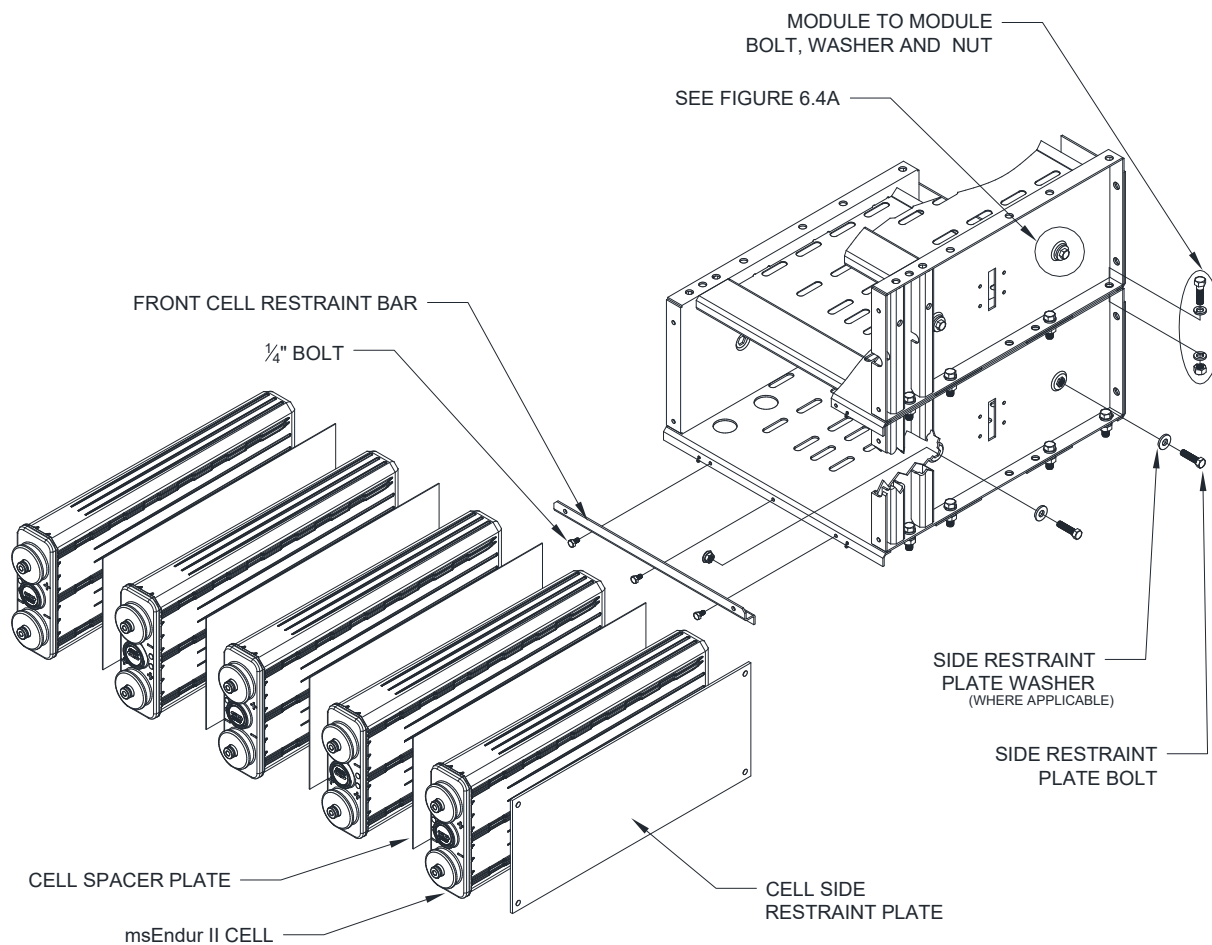

Figure 6-4 Spacer and Front Cell Restraint Assembly
- 3) If the assembly requires additional modules, using appropriate lifting equipment, place additional modules, one at a time, on top of modules already in place. Properly align modules and mounting holes, and insert the bolts, washers and nuts as shown in Figure 6-4. Module-to-module bolts should be torqued to 60 ft-lb (81 N-m) using a torque wrench.
7. Install the remaining cells within the module repeating steps 2-5 until the module is full. After each new cell is installed, insert a metal cell spacer plate between each cell. The spacer plate should be pushed to the back of the module. Slide the next cell over to the previously installed cell. This will ensure that the cells are all biased toward the side opposite of the cell side restraint plate and side restraint hardware. This will allow adequate room for ease of insertion of the cell side restraint plate. When installed properly, cell spacer plates should not reach the jar/cover joint. If the cell spacer plate extends beyond the lower lip of the module, remove it, check for any obstructions and re-install. See Figure 6-4
8. Once all cells are installed within the module and spacer plates are in place, insert the cell side restraint plate as shown in Figure 6-4. The cell side restraint plate should also be pushed to the back of the module. When properly installed, the cell side restraint plate should be fully seated against the back of the module and the front edge of the plate should not reach the jar cover seal. With all cells, spacer plates, and cell side restraint plates installed within the module, the front cell restraint bar should be installed using all supplied hardware. The front restraint bar hardware should not be completely tightened at this time. See Figure 6-4
9. Starting with the top module, side restraint plate bolts (installed earlier as described in step 2) should now be tightened. Bolts should be hand-tightened first to ensure they are square against the module and the cell side restraint plate. See Figure 6-4
- d) Continue to tighten the bolts until the underside of the bolt head is bottomed out onto the floating flange nut or flat washer (where applicable). See Figure 6.4 and 6.4A
11. The front cell restraint bar hardware should be completely tightened at this time. To maintain seismic ratings, all front cell restraint bar hardware must be installed and torqued to 6 Ft-Lb (8 N-m). See Figure 6-4
6. Remove front cell restraint bar bolts, shown in Figure 6-4. Restraint bar may be left attached to modules using retaining rings to prevent it from being misplaced.